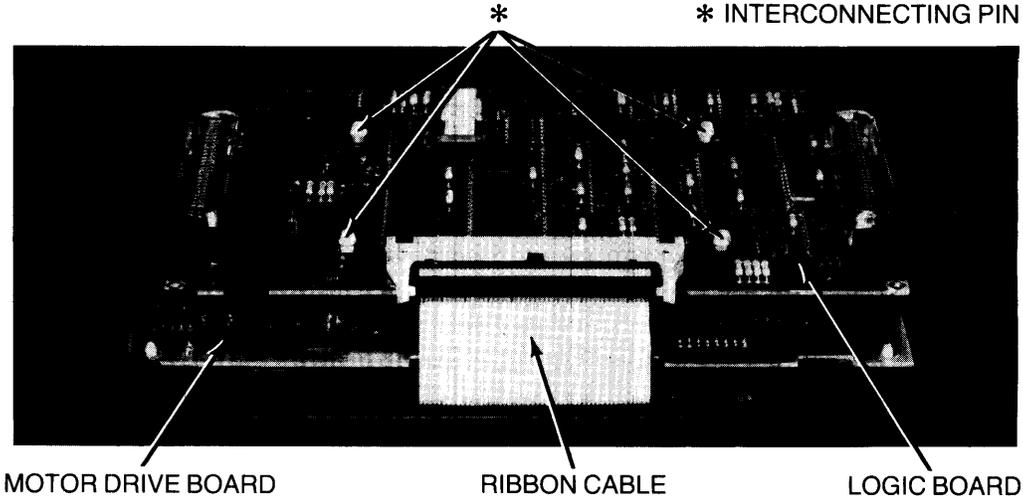

Figure 4-47. Separating Logic and Motor Drive Boards
- 7. Disconnect ribbon cable from logic board (Figure 4-47).
- 8. With needlenose pliers, squeeze four plastic pins that interconnect the two boards (Figure 4-47), force pins out of logic board, and lift logic board off motor drive board.